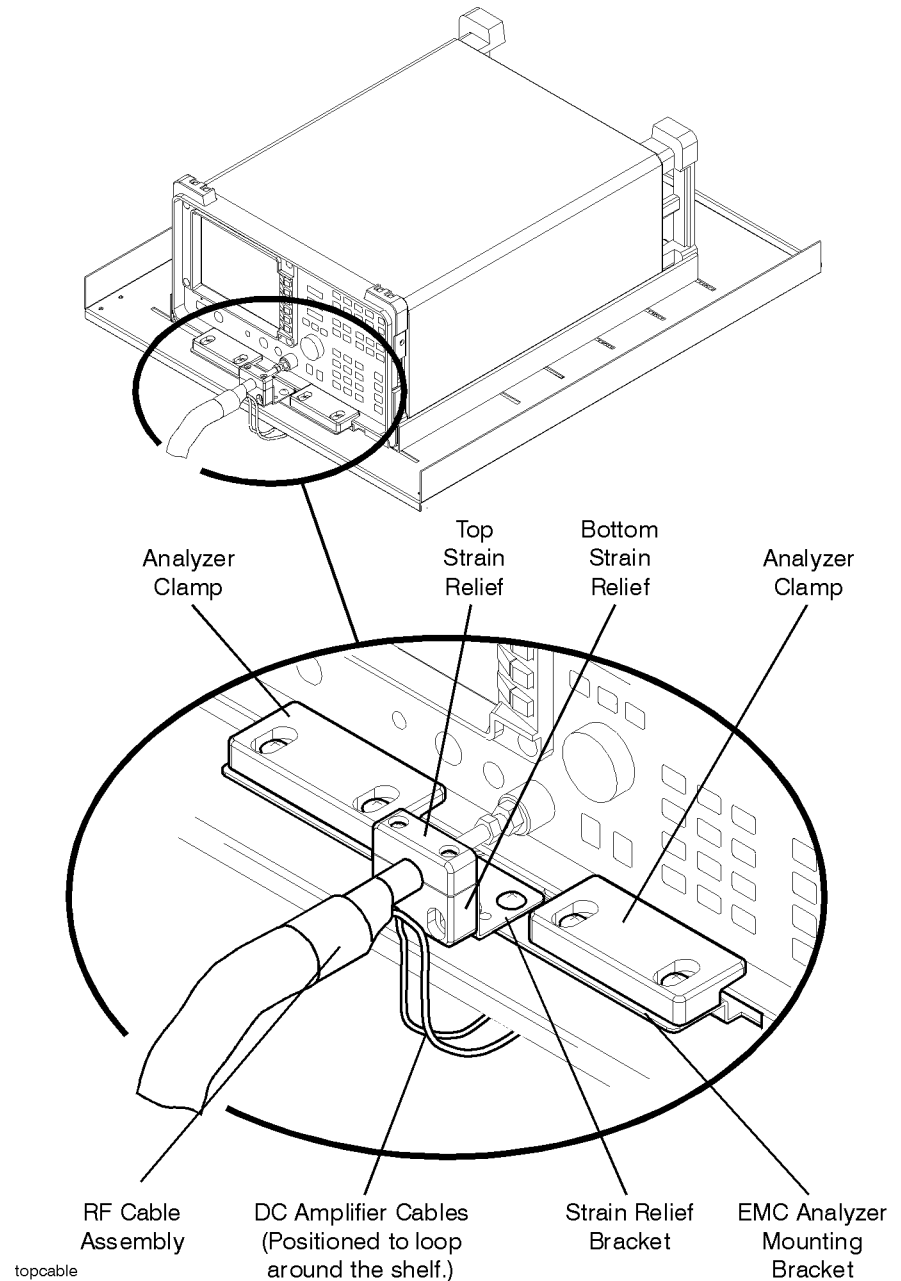

Figure 3-2. Front view of the Spectrum Analyzer
4. Position the analyzer clamps as shown in Figure 3-2 and loosely attach with four 4.0 mm X 16 mm screws.
Refer to Figure 3-2 for the following procedure.